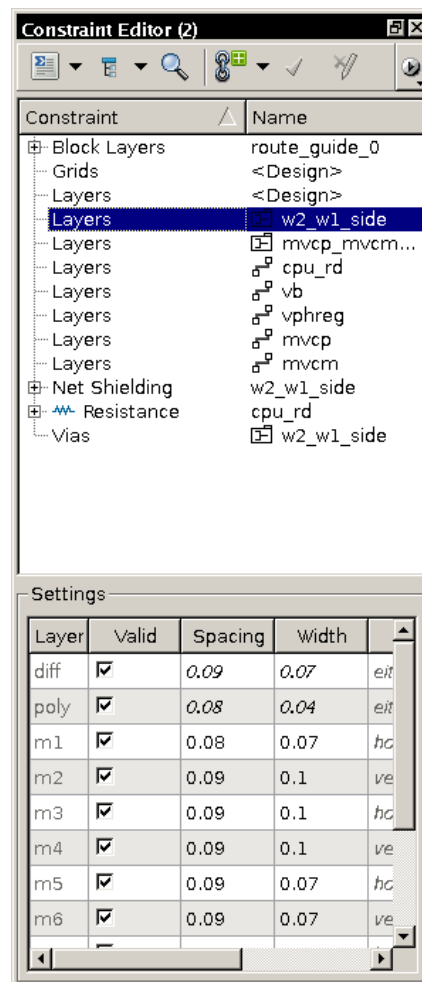

Figure 6 Constraint Editor Window
- b. Observe that width values match IC Compiler values as shown in Figure 6.